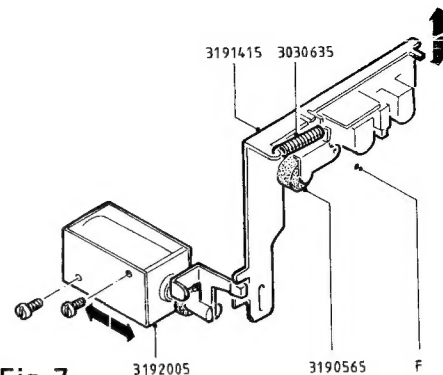

Fig. 7
- b) If the adjustment is incorrect, loosen the mounting screws of the holding magnet (3192005) and reposition the magnet as required (Fig. 7).
- c) Should wow and flutter readings exceed published specifications, check the condition of the pressure roller (pressure arm 3190565) and the pressure spring (3030635) (Fig. 7).